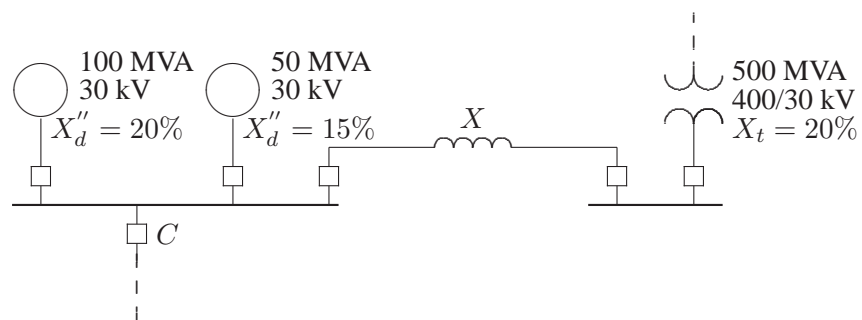

FIGURE 67
9.2. The system shown in Figure 67 shows an existing plant consisting of a generator of 100 MVA, 30 kV, with 20 percent subtransient reactance and a generator of 50 MVA, 30 kV with 15 percent subtransient reactance, connected in parallel to a 30-kV bus bar. The 30-kV bus bar feeds a transmission line via the circuit breaker